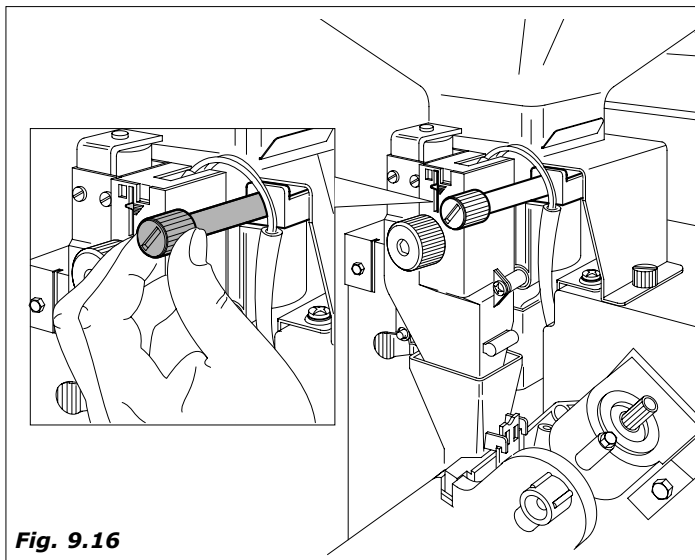

Fig. 9.16
- *Regulation of the degree of grinding.* Turn the screw (fig.9.16) to obtain the desired results.